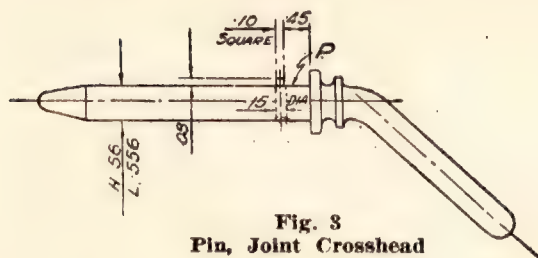

Fig. 3
**PINS, JOINT CROSSHEAD, AND ELEVATING GEAR:**— When badly worn they are to be replaced by new ones, usually they only require a new feather (See Figs. 3 and 4) when fitting this care should be taken not to reduce the diameter at "P".